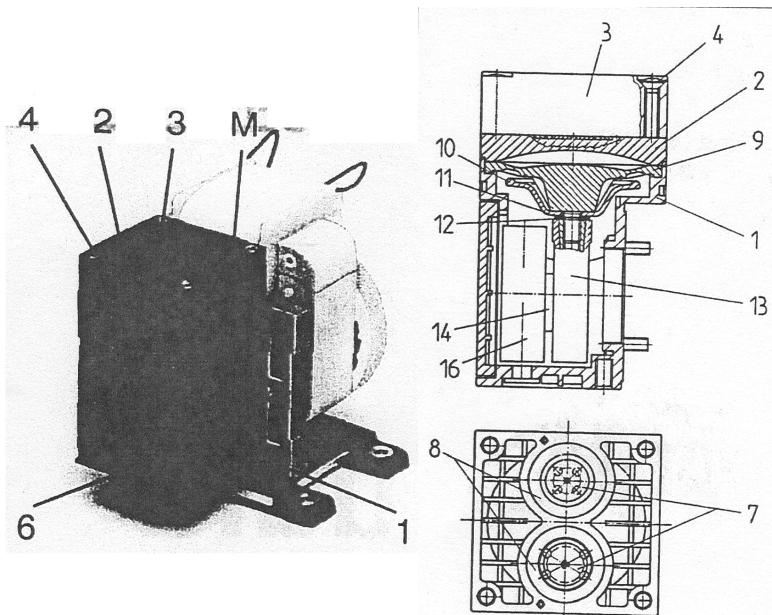

Figure 16: Pump Head Removal
4. Remove the pump head by (Figure 16: Pump Head Removal):
- Making a mark (M) on the head plate (3), intermediate plate (2), and housing (1) with a felt-tip pen.
- Undoing the 4 screws (4) in the head plate and lifting the head plate, with the intermediate plate, off the pump housing.
- DC motors (no cooling fan): Removing the cover (6) from the pump housing (1) by inserting a screwdriver into the slots on the sides, and prying the cover off (with care the adhesive gasket between cover and housing may be reused).
- No fan: Reference is made to turning or holding the cooling fan, the necessary operations must be carried out by turning or holding the counterweight (16).
5. Change the diaphragm by (see Figure 16: Pump Head Removal):
- Turning the fan to bring the structured diaphragm (9) to top dead center.
- Taking the disc spring (12), diaphragm spacer(s) (11), and diaphragm support (10) off the threaded portion of the diaphragm and retaining them.
- f. Turning the fan until the connecting rod (13) is at top dead center.
6. Change the valve plates by (see Figure 16: Pump Head Removal):
- a. Separating the head plate (3) from the intermediate plate (2).
- b. Removing the valve plates (7) and sealing rings (8) from the intermediate plate.
7. Refit the pump heads by (see Figure 16: Pump Head Removal):
- b. Placing the intermediate plate (2), with valve plates (7), sealing rings (8), and head plate (3) on the housing, in the position indicated by the (M).
- d. Gently tightening the screws (4), evenly and diagonally.
- g. Tightening the screws (4).
- h. *For DC versions (no cooling fan):* Reattaching the cover (6) to housing (1).